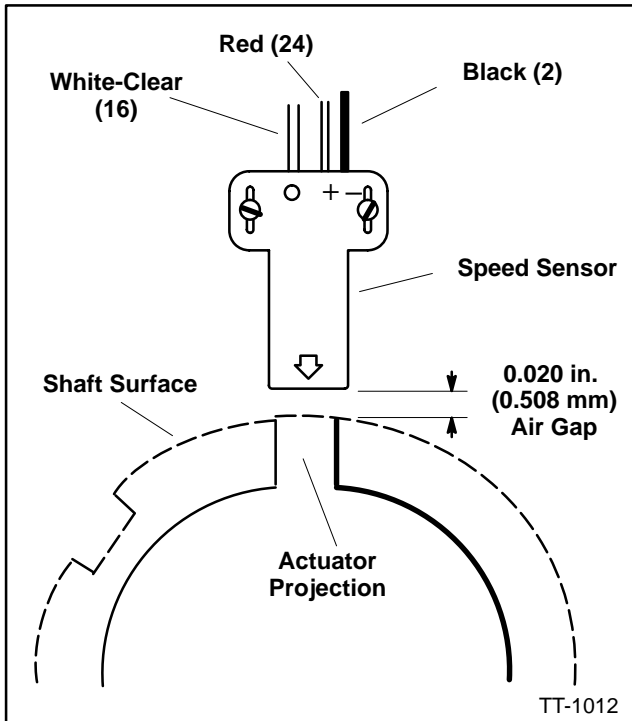

Figure 10. Speed Sensor Air Gap
17. Reconnect speed sensor leads. Set speed sensor air gap to 0.020 in. (0.5 mm). See Figure 10.